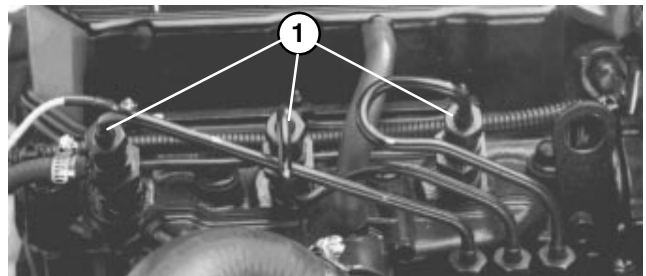

Figure 38
BLEEDING AIR FROM INJECTORS (Fig. 38)
2. Loosen the pipe connection to the No. 1 nozzle and holder assembly (Fig. 38).